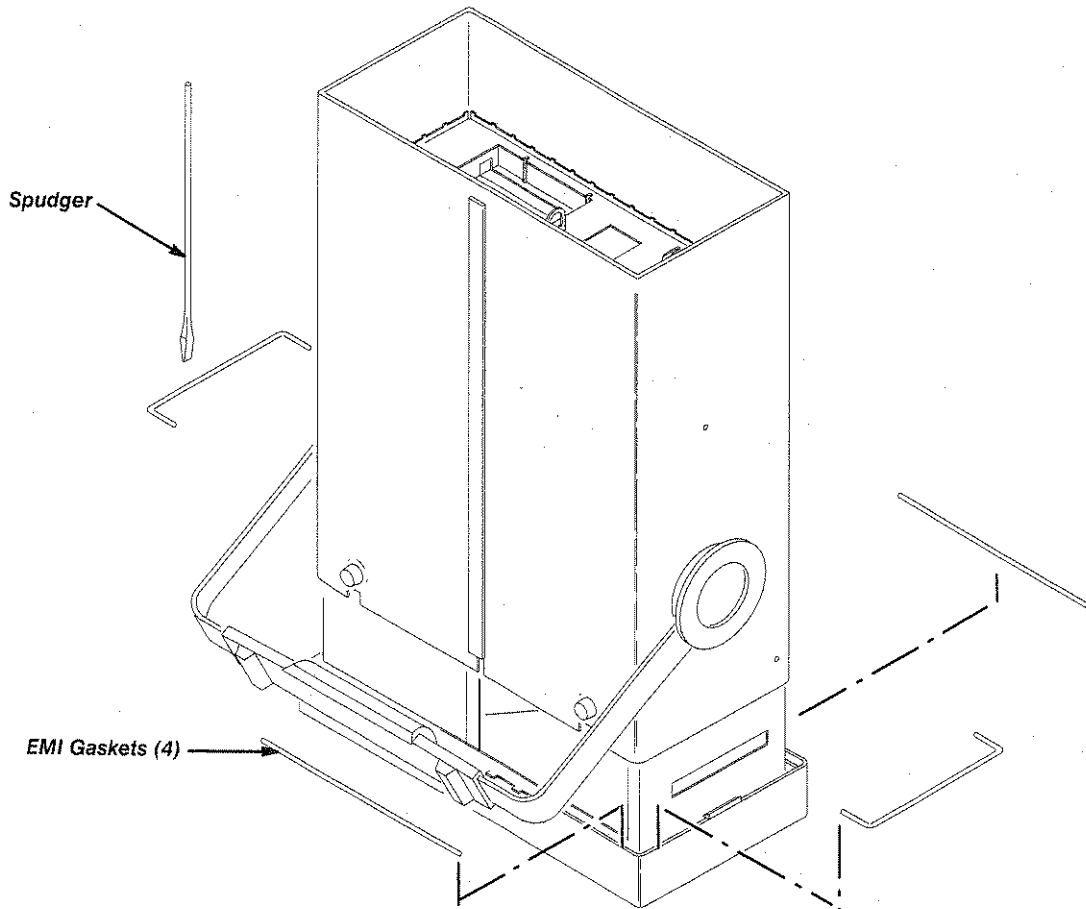

Figure 8-6: EMI Gasket Installation
5. Using a flat-bladed spudger, push the EMI gasket until it is firmly seated at the bottom of the groove (see Figure 8-6). It should not overlap either flex lock.